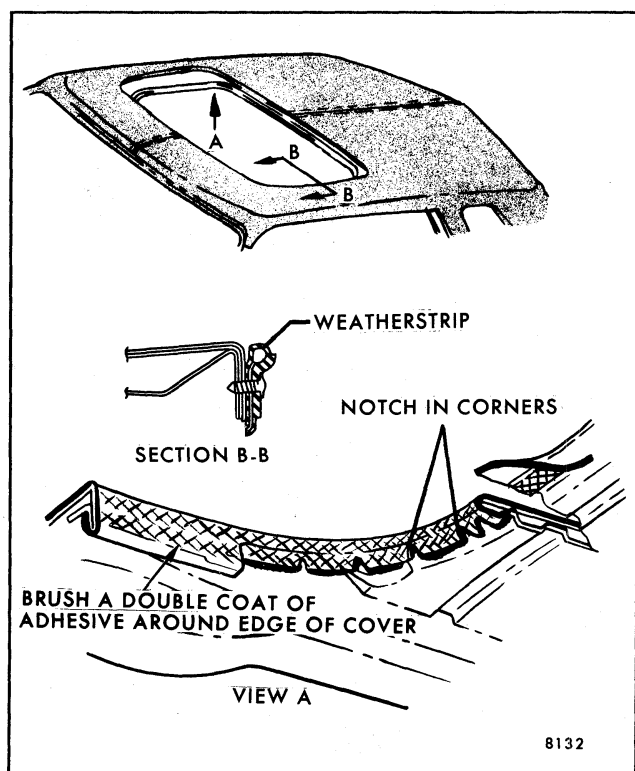

Fig. 8-43-Fabric Roof Cover Installation - Sun Roof Option
15. On sun roof (Fig. 8-43) or vista vent option, trim and cement cover in roof opening. Also, on sun roof option, replace previously removed tape along rear of opening.